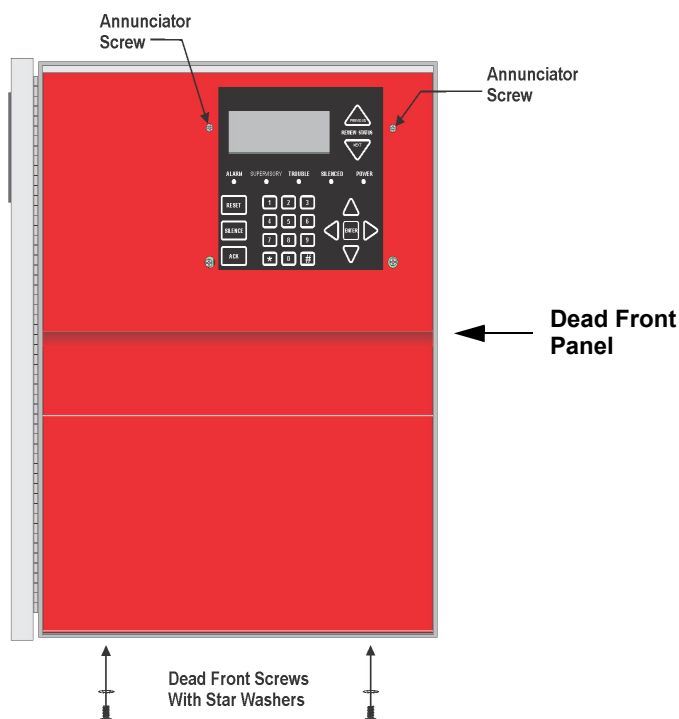

Figure 4.2 Dead Front Installation and Removal
1. Remove the top, two annunciator screws, do not discard them they will be reused. See Figure 4.2 for annunciator screw location.
2. Set the dead-front into the cabinet as shown in Figure 4.2.
4. Insert the two screws with the star washers into the bottom of the cabinet to secure the dead front into place. See Figure 4.2.
1. Remove the two annunciator screws, do not discard them. See Figure 4.2.
2. Remove the two screws and star washers from the bottom of the cabinet. See Figure 4.2.
4. Reinsert the two annunciator screws. See Figure 4.2.